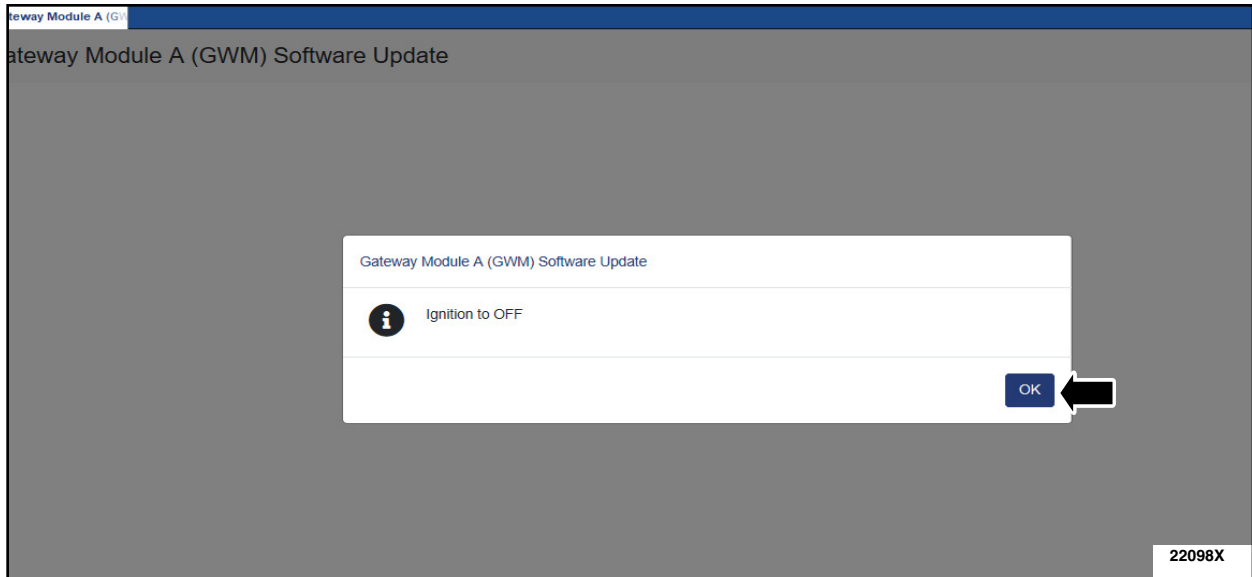

FIGURE 21
23. Turn ignition to off and click the OK icon on the FDRS screen. See Figure 21.